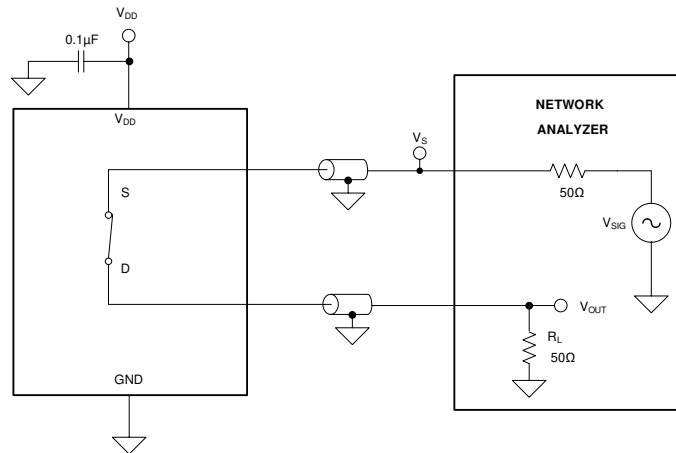

Figure 22. Bandwidth measurement setup
Bandwidth is defined as the range of frequencies that are attenuated by less than 3 dB when the input is applied to the source pin (S) of an on-channel, and the output is measured at the drain pin (D) of the device. The characteristic impedance, Z_0 , for the measurement is $50\ \Omega$. Figure 22 shows the setup used to measure bandwidth.